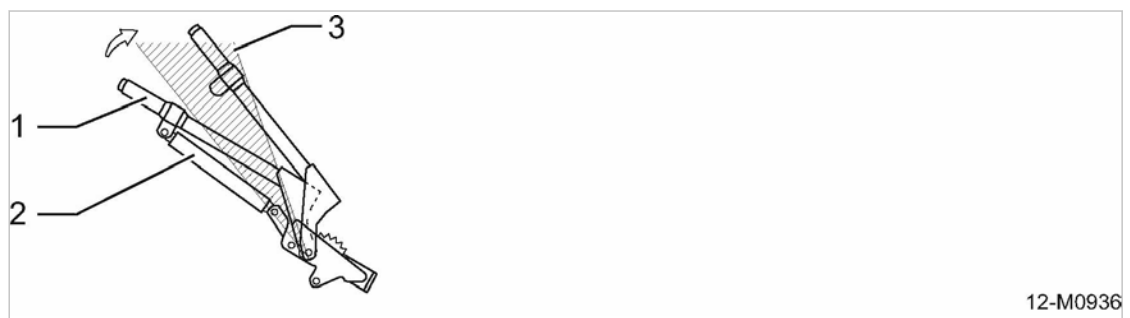

Fig. 84 Actuating the parking brake with gas spring assistance
4. Pull on the parking brake past the dead point zone (see figure 84).